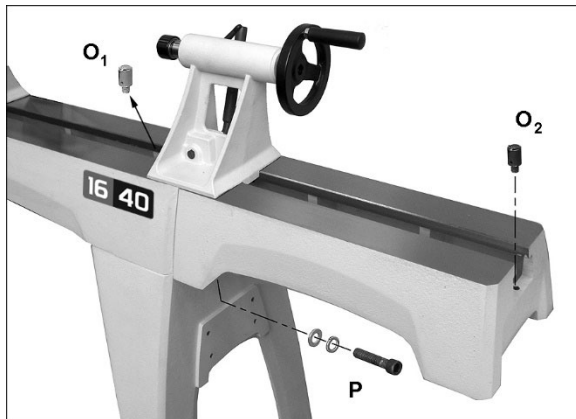

Figure 5-6: installing bed extension (optional)
1. Unscrew stud (see O, Figure 5-6) from each end of bed. (Note: studs can be stored in one of the threaded holes in lathe legs.)
7. Install headstock, tool support and tailstock, and both studs (O, Figure 5-6).
washers provided with bed extension (P, Figure 5-6). Snug screws just enough to hold bed extension to lathe bed.
5. Slide tailstock over joint where beds meet, so that clamping nut is centered over joint, as shown in Figure 5-6. Lock tailstock clamping handle; this will align the beds.
6. Securely tighten screws (P) in bed extension.
To remove headstock, tailstock or toolrest base from bed, unscrew and remove either of the studs (see O, Figure 5-6). Unlock the item and slide it off bed. After remounting these items on the lathe, reinstall studs.